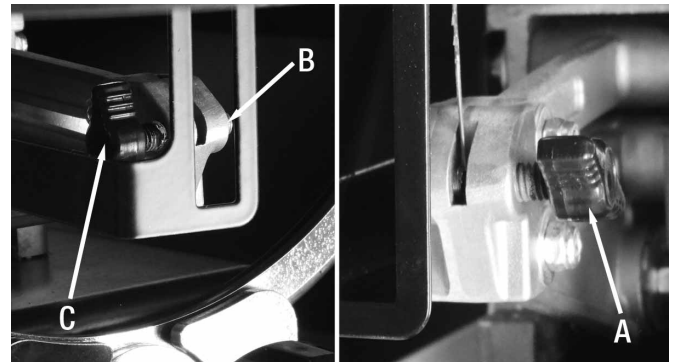

FIGURE 9
NOTE: When tilting the head to the left at extreme angles, you may need to remove and reverse the position of the lower blade mount lock knob (A) Fig.9, this will ensure there is enough clearance under the table. Undo the lock knob (A), undo the set screw (B) on the opposite side and reverse the parts. Lock knob is shown installed on the other side (C).